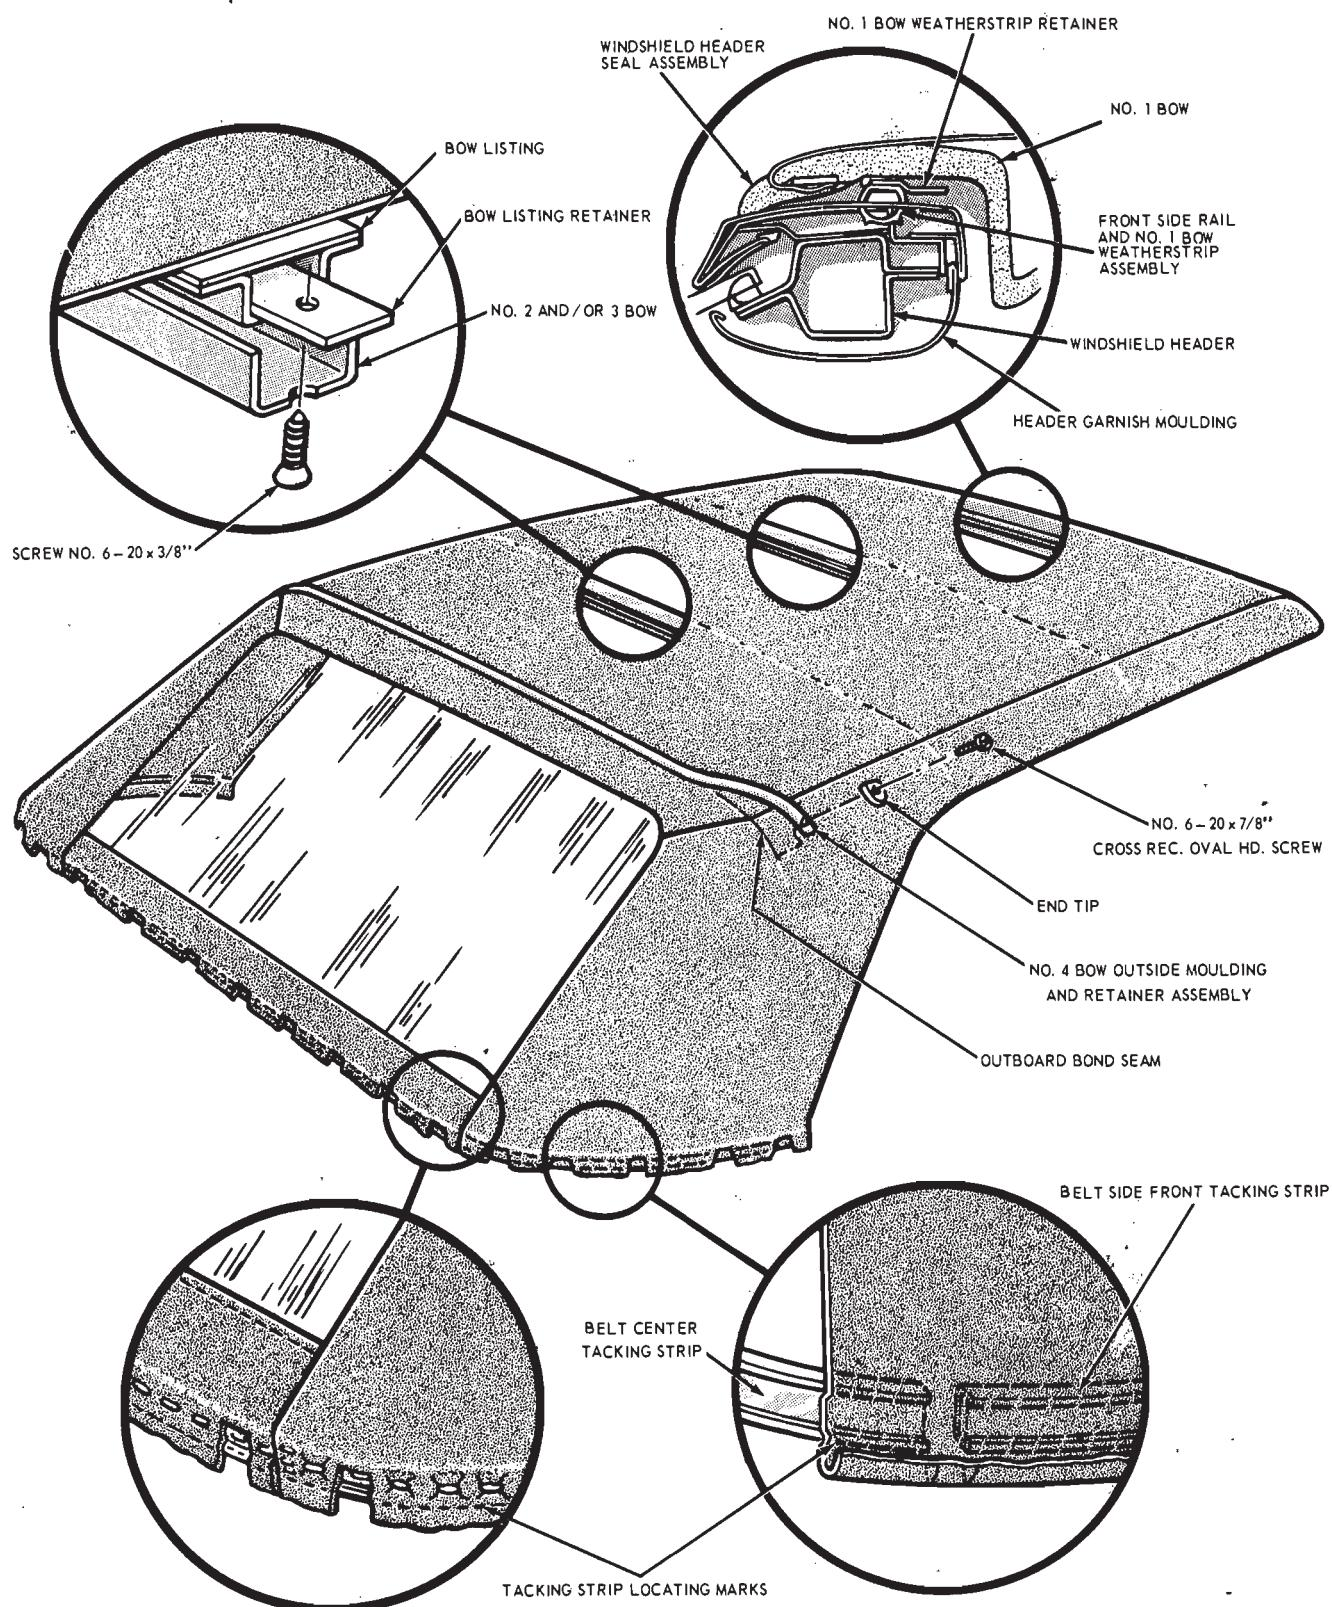

FIG. 9—Folding Top Fabric Installation—Ford, Meteor, Mercury
Mark the quarter deck material along the lower edge of the tacking strips (Fig. 9).
6. Remove the windshield header seal assembly and the top material from the No. 1 bow (Fig. 9).
11. Remove the No. 2 and No. 3 bow listing retainer screws and remove both retainers from the listings (Fig. 9).
3. Align the belt side front tacking strip with the aligning marks on the top quarter deck (Fig. 9) and retain it with staples.
material on the No. 4 bow, making certain that the short outboard bond seam (Fig. 9) is also centered fore-and-aft on the No. 4 bow. Secure the material to the bow with staples.
5. Insert the two retainers in the No. 2 and 3 bow listings (Fig. 9).